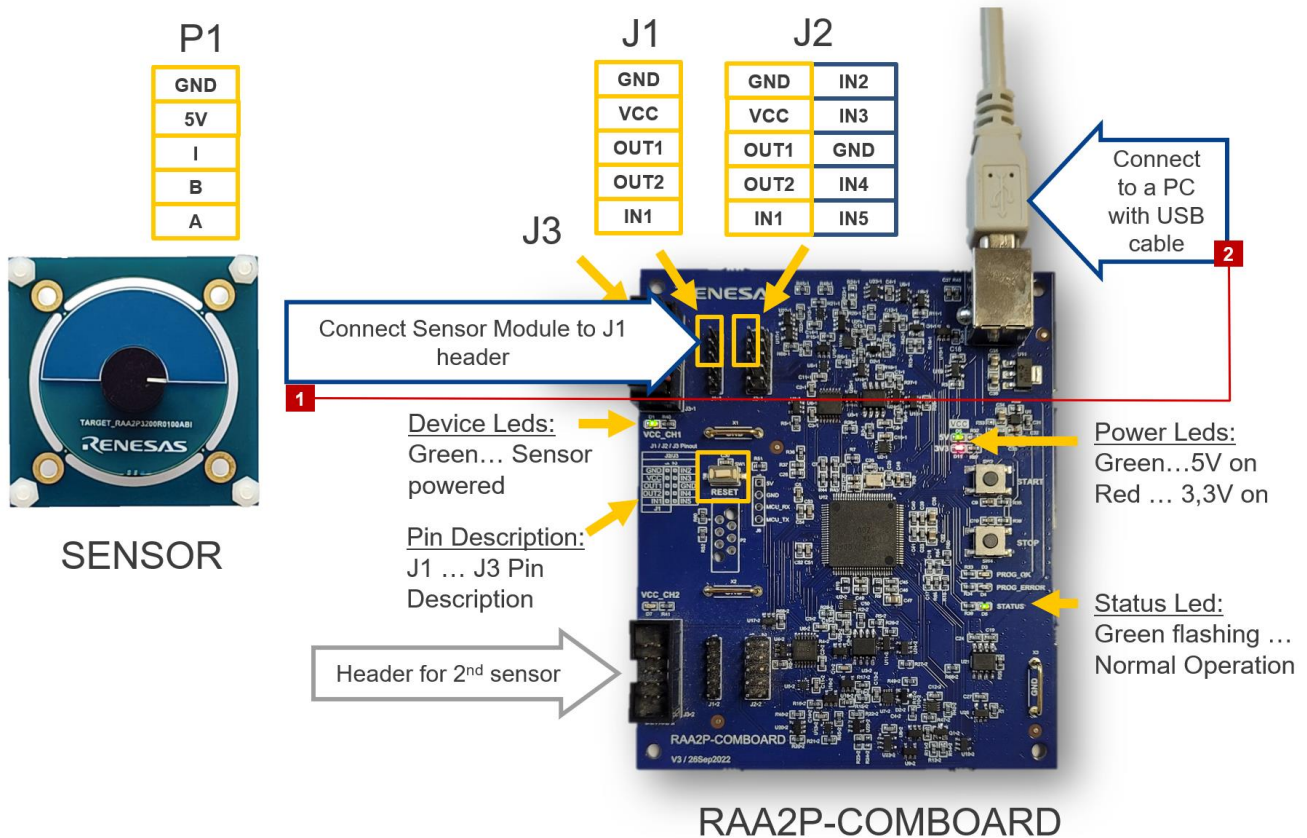

Figure 3. Evaluation Kit Connection Setup
1. Connect the sensor module P1 connector to the J1 header of the RAA2P-COMBOARD using the provided cable according to Figure 3.